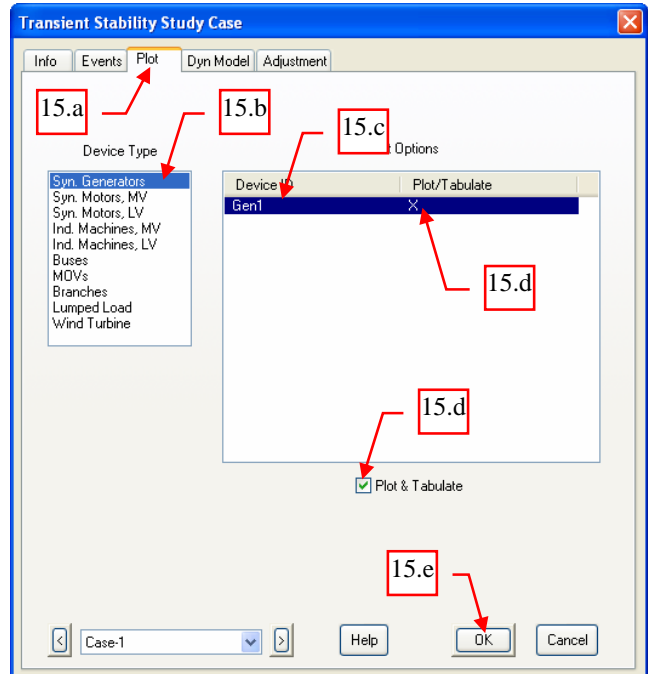

Fig. 9
15. Since the concern is to verify the response of the Gen1 due to the disturbance, instruct the program to create plot profiles for the Gen1. See Fig. 9.